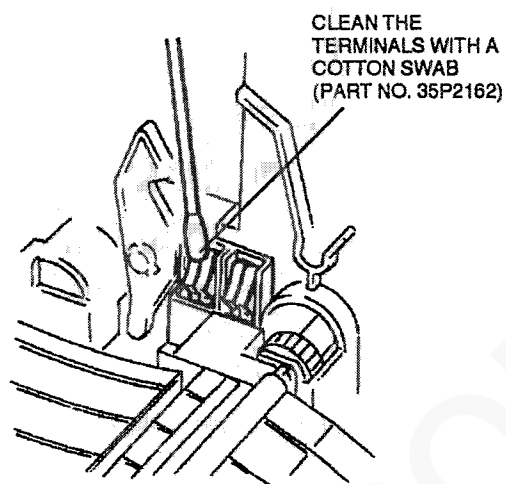

Figure 1. Right high voltage terminal cleaning
3. (Figure 1) Clean the terminals and contacts of the right high voltage connectors,